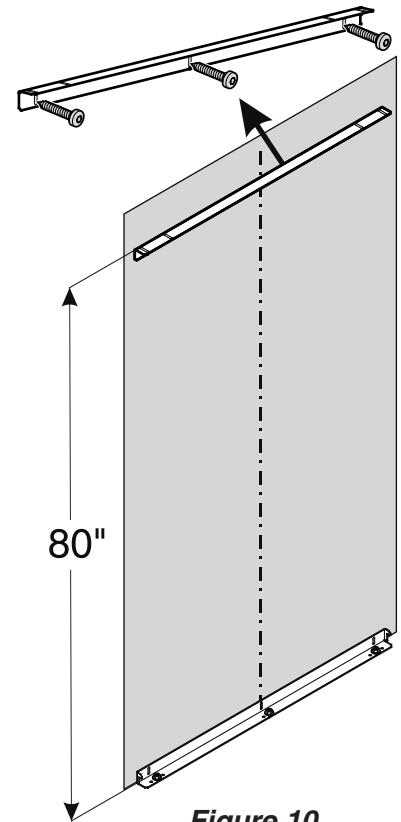

Figure 10
1. Mount the anti-tipping bracket provided on the wall using 6 x 60 screws (**Figure 10**).